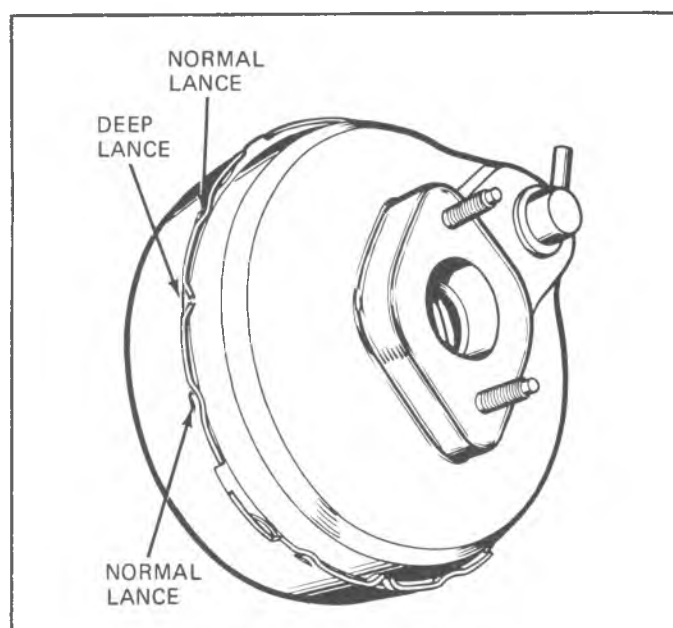

Fig. 5D--Lances in Rear Housing
13. The edge of the rear housing contains twelve (12) lances. Four (4) of these lances (one in each quadrant) are deeper than the other lances. The metal that forms the four (4) deep lances must be partially straightened so that the lances will clear the cutouts in the front housing. If the metal tabs that form the deep lances break during straightening, the housing must be replaced (fig. 5D).